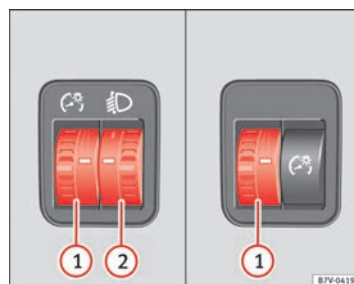

Fig. 62 Next to the steering wheel: instrument and switch lighting control ① and headlight range control ②. ▶
When the headlights are switched on, the brightness of the instruments and switch lighting can be regulated to suit your requirements by turning the switch ⇒ fig. 62 ①.